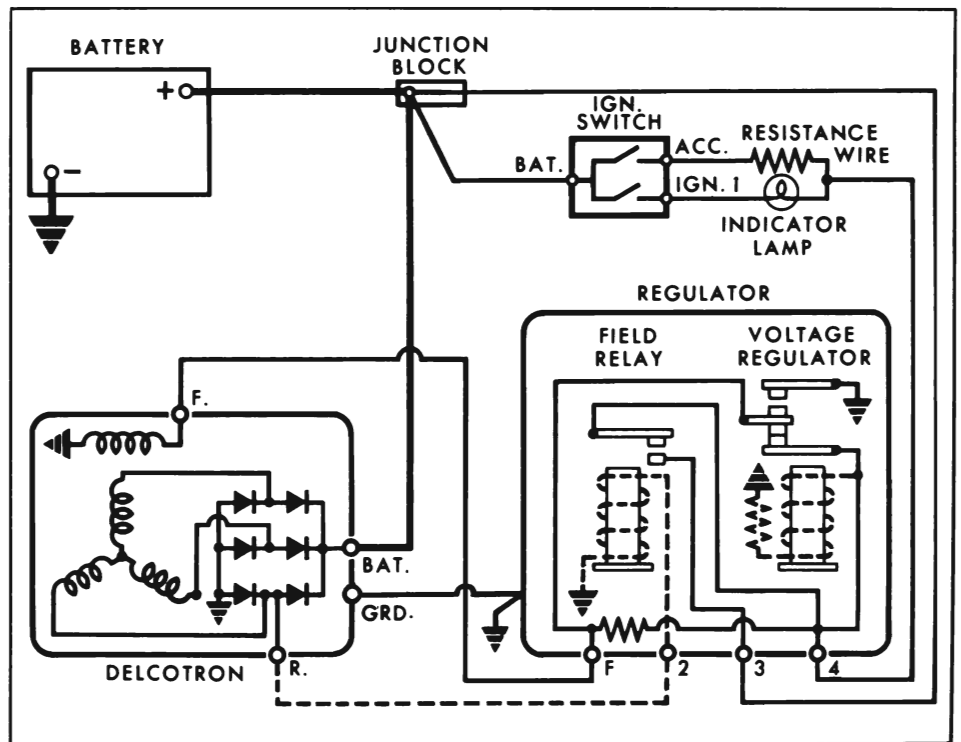

Figure 10-23—Delcotron Generator Wiring Circuit Diagram
about one ampere flows through the lower contacts of the voltage regulator (held closed by the spring), out the "F" terminal of the regulator, in the "F" terminal of the generator, through the brush and slip ring, through the field, through another brush and slip ring to ground. See Figure 10-23.
The voltage regulator armature has two contact points which are over and under stationary contact points. When the voltage regulator unit is not operating, the tension of a spiral spring holds the armature away from the core so that the lower set of contacts is closed. See Figure 10-23.
When the combined accessory and battery load is low and the engine speed is high, very little field current is required to provide the needed generator output. The voltage in the charging circuit will rise between .1 and .3 volt and the regulator armature will be drawn farther down to operate on the upper set of contacts. When the contacts are open, field current will be about 3/4 ampere; when the contacts are closed, the upper armature grounds the current from the resistor and field current is zero. See Figure 10-23. While the upper contacts are vibrating, then, field current will be somewhere between 3/4 ampere and zero, depending on the rate of vibration.
c. Check voltage at generator field by connecting a voltmeter from generator "F" terminal to ground. If voltmeter reading is below 5 volts, check for a resistance or open in the circuit that should supply the initial field current. See Figure 10-23.